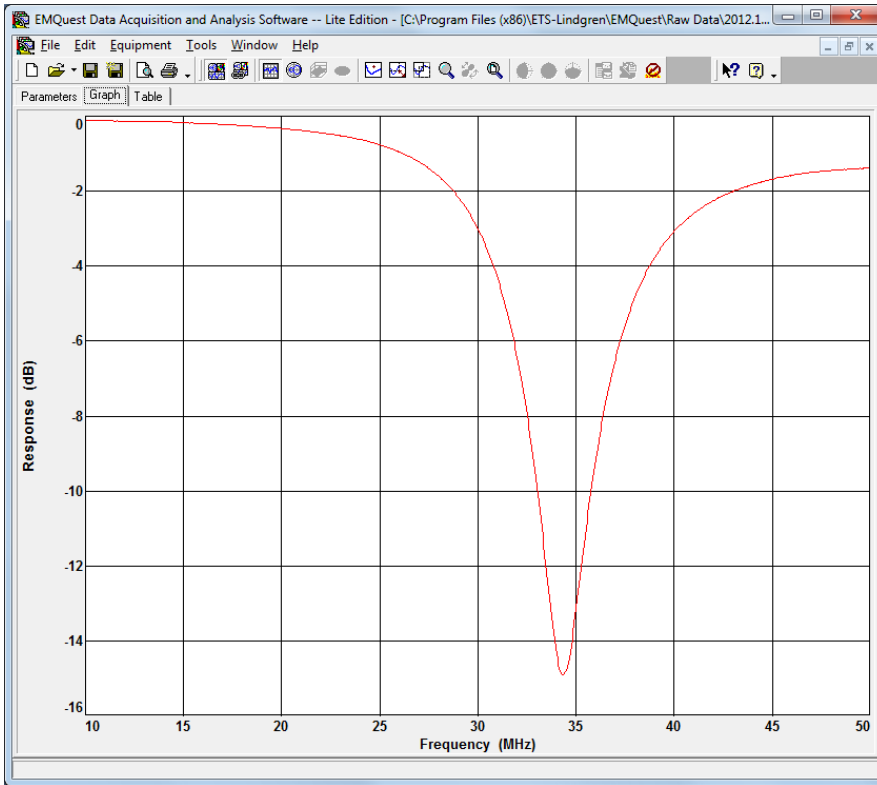

Figure 15. Measured magnitude of S11 (dB) vs. frequency (MHz).
11. The resulting plot is shown in Figure 15. You may also display the results in a table (Figure 16).